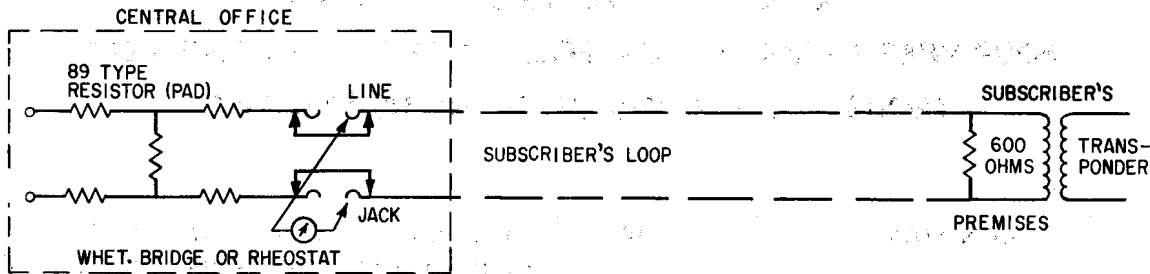

Fig. 1 — Measurement of Loop DC Resistance
3.01 The resistance of each loop should be measured from its LINE jack at the central office with a Wheatstone Bridge or rheostat on the local test desk as shown in Fig. 1. The resistance should include the 600-ohm termination placed by the Telephone Company and located at the subscriber's premises. **IF** the transponder is installed by ARB, its resistance of about 540 ohms will be in parallel with the Telephone Company termination and this should not be overlooked. The resulting resistance of each loop measured on the circuit order test should be filed with the circuit order card or sketch for future reference.
- (6) If possible, isolate the trouble to a specific office.
- (7) Monitor the loops at the LINE jacks for excessive noise. If a 2B Set is available, measure the noise at the same jack. The noise should not exceed 35 dba.
- (8) Check the subscriber loop for a ground.
- (9) If all loops are noisy, check central office for recent rearrangements in central office power plant.
- (10) Measure loop resistance as shown in Fig. 1.
- (11) Remove connections to transponder on 11C connector at customer's premises.